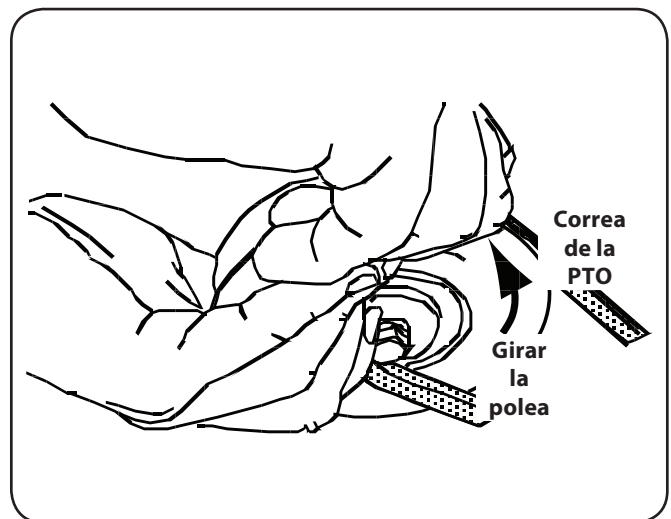

Figure 7-10
11. Place the belt into the engine pulley. See Figure 7-10.